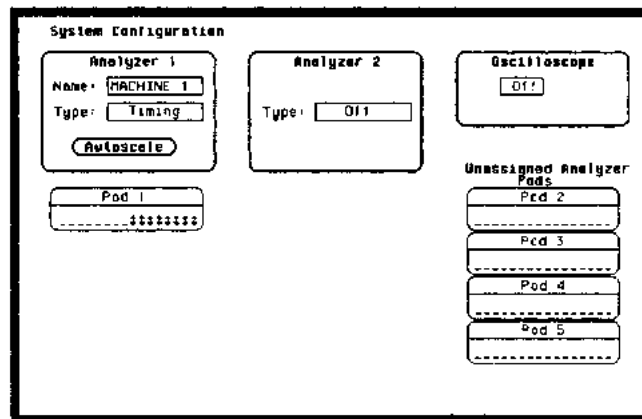

Figure 3-32. System Configuration for Glitch Test
- Assign the pod under test to **Analyzer 1** in the **System Configuration** as in figure 3-32. Refer to steps a through c if you are unfamiliar with menus.
2. Assign the pod under test to **Analyzer 1** in the **System Configuration** as in the previous figure 3-32.